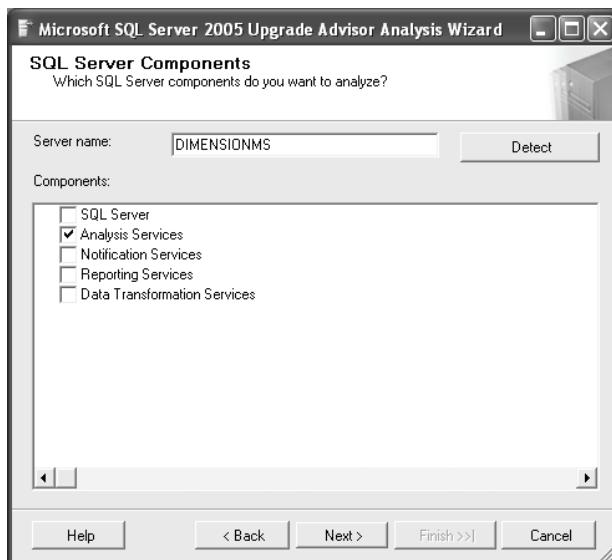

Figure B.2 The Upgrade Advisor can analyze the SQL Server relational engine and all add-on components.
- Once you download and install Upgrade Advisor, run it and click the *Upgrade Advisor Analysis Wizard* link on the welcome screen to launch the Upgrade Advisor Analysis Wizard. Click Next to advance to the *SQL Server Components* step (Figure B.2).